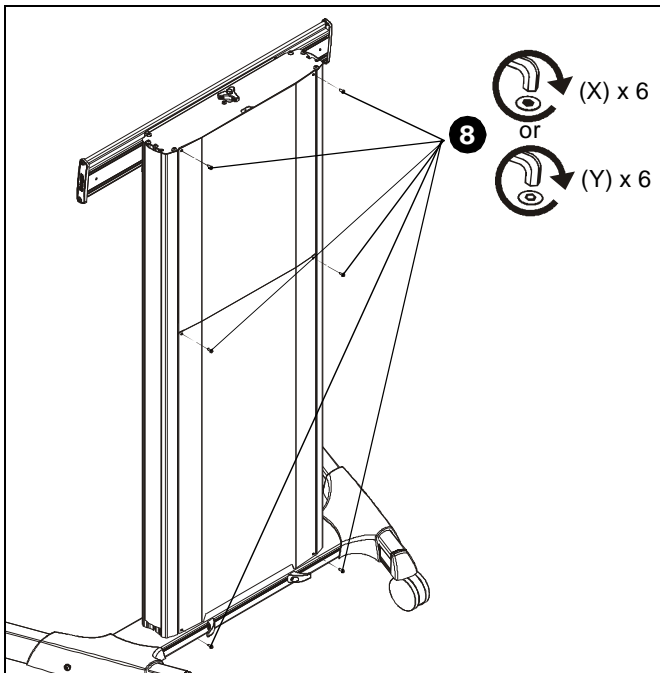

Figure 21
8. Use six #10-24 x 1/2" button head cap (X) or security (Y) screws to secure upper cover (E) and lower cover (D) to back of column (F). (See Figure 21)